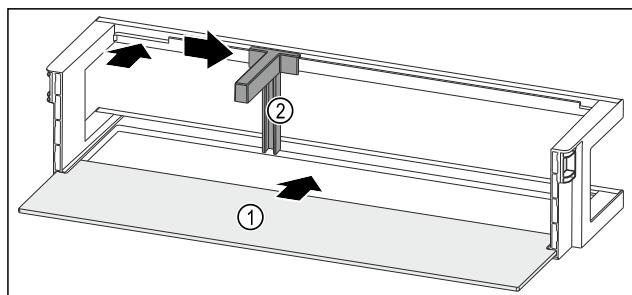

Fig. 96 Door rack with shelf
- Push the shelf Fig. 96 (1) into the side recesses.
- Insert the bottle holder Fig. 96 (2) in the recess.
- Push the bottle holder Fig. 96 (2) to the desired position to the side.